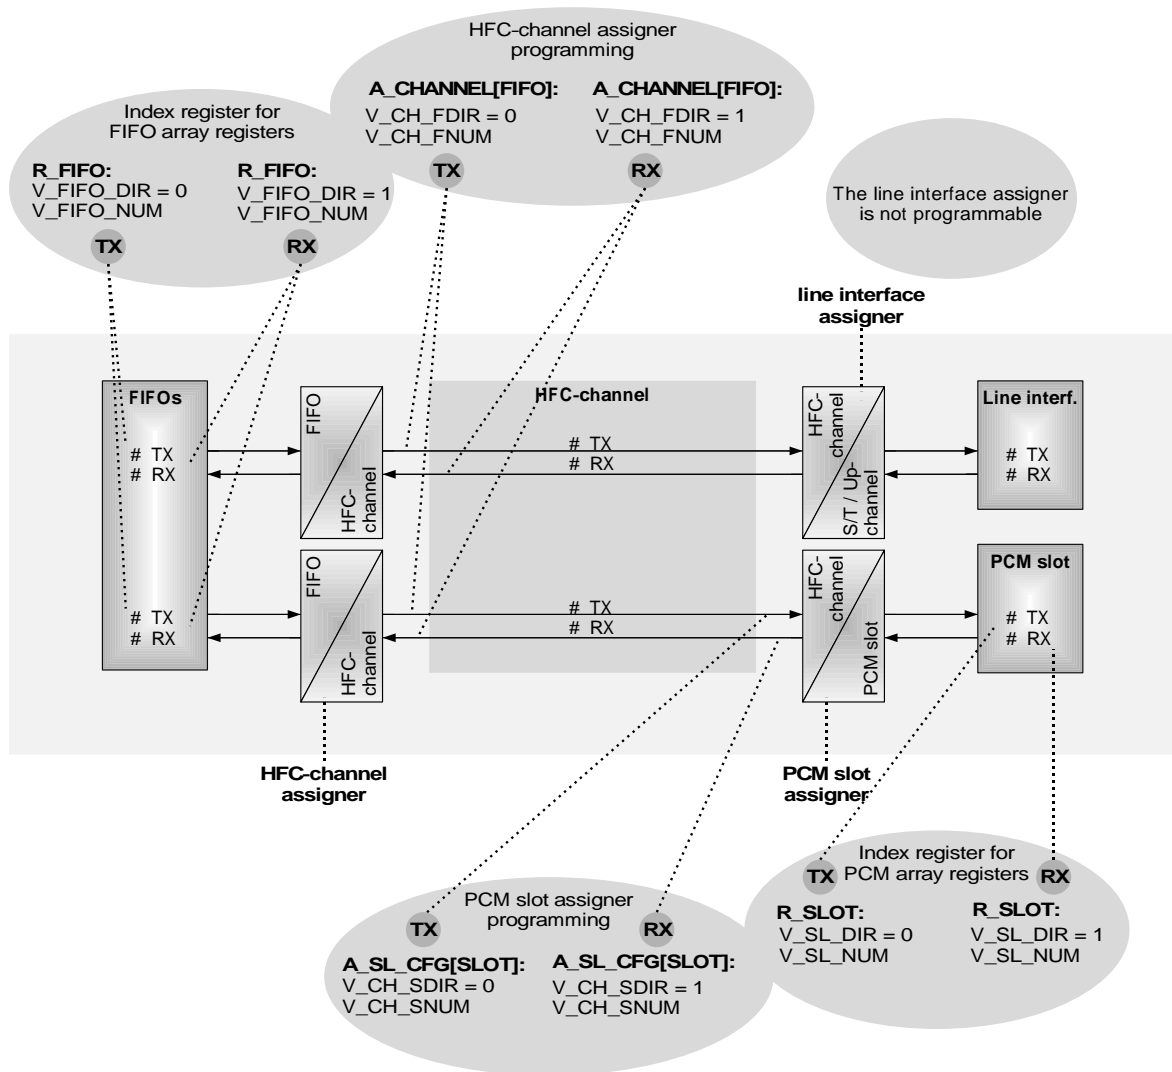

Figure 3.5: Overview of the assigner programming
The three different assigner types of XHFC-2S4U/4SU are shown in Figure 3.5. Assigner programming is always handled with array registers. This can be a FIFO array register or a PCM slot array register.
- The HFC-channel assigner programming depends on the data flow mode which is described in Section 3.4. This section explains in what cases the assigner is programmable and how this can be done. Figure 3.5 gives a hint, that the programming procedure is handled with array register A\_CHANNEL[FIFO]. Please see section 3.4 for details and restrictions.